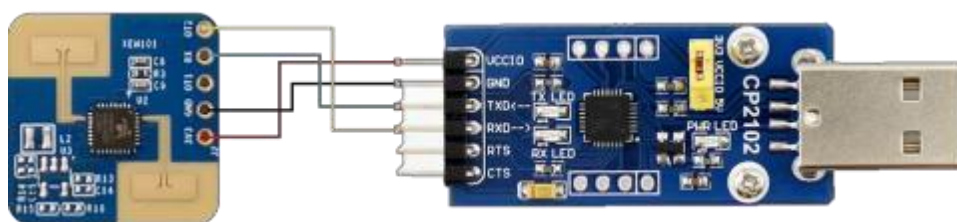

Figure 4-1 Connection between HLK-LD2420 hardware and USB serial port adapter board
**Step 1**、The USB to TTL serial adapter board is used to connect the host computer to the radar module, and the pin connections are shown in Table 4-1 and Figure 4-1. shown in Table 4-1 and Figure 4-1.
**Step 2:** Use the serial adapter board to connect the radar module and the host computer according to Figure 4-1.